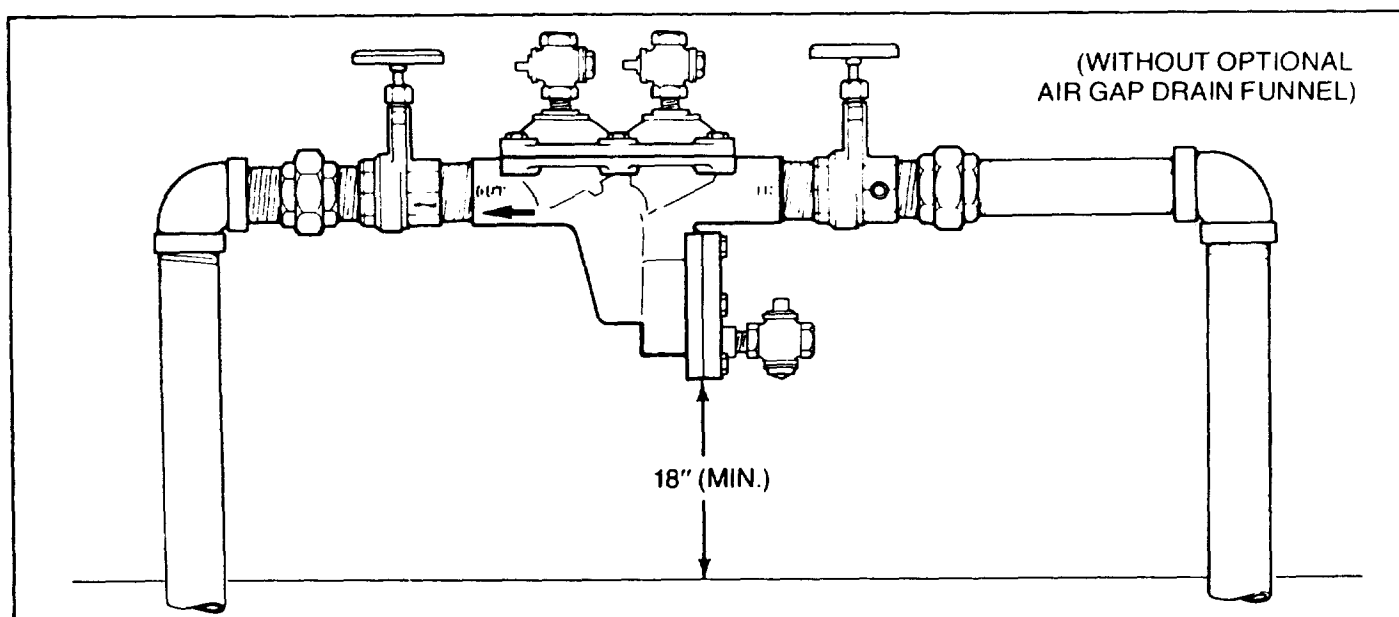

Figure 2. WARM CLIMATE OUTDOOR INSTALLATION
4. Devices should be installed in an accessible location with ample clearance to facilitate testing and repairs. (See Fig. 2)
### B. WARM CLIMATE OUTDOOR INSTALLATION (See Fig. 2)